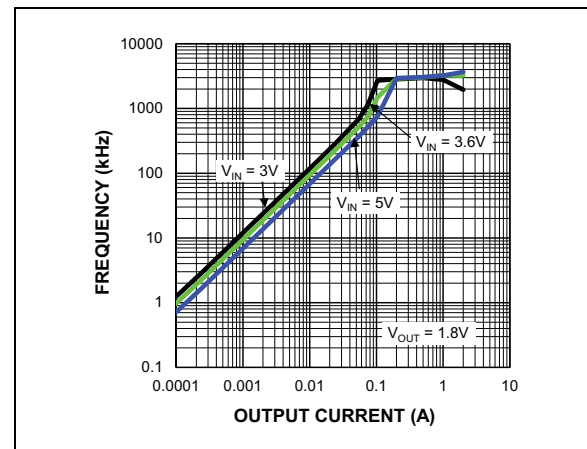

FIGURE 5-3: Switching Frequency vs. Load Current.
As shown in Equation 5-11, the load at which the MIC23450 transitions from HyperLight Load mode to PWM mode is a function of the input voltage (V_{IN}), output voltage (V_{OUT}), duty cycle (D), inductance (L) and frequency (f). As shown in Figure 5-3, as the Output Current increases, the switching frequency also increases until the MIC23450 goes from HyperLight Load mode to PWM mode at approximately 120 mA. The MIC23450 will switch at a relatively constant frequency around 3 MHz once the output current is over 120 mA.